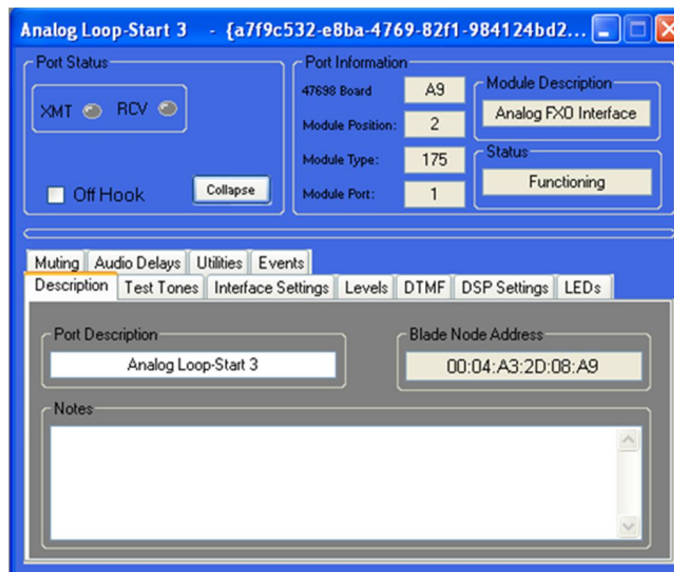

Figure 55: SNI Main Setup Screen
4. The following screen will appear allow the user to make configuration changes with every tab. Refer to Figure 55.